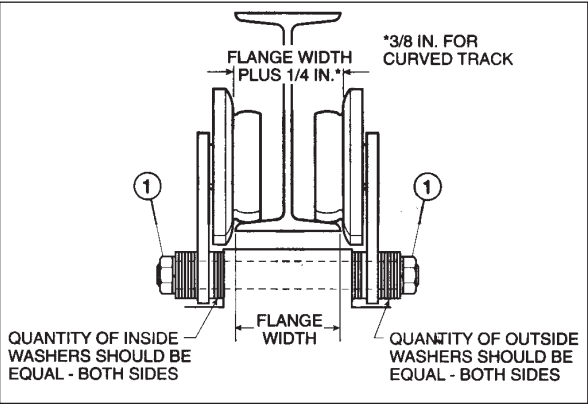

Figure 2-1. Sectional View of Trolley showing proper wheel and washer spacing
- b. **Trolley Mounted** hoists are attached to moveable trolleys. If the hoist is mounted on an existing trolley, a qualified person shall determine that the trolley and its supporting structure are adequate to support the rated load and weight of the hoist. Hoist/trolley units may be shipped from the factory with trolley packaged separately. If the trolley can be installed directly over the end of the supporting beam, assemble trolley to hoist. Be certain that the spacing between wheel flanges, after assembly, is 1/4" greater than exact width of beam flange. (See Figure 2-1 below and instruction sheet furnished with trolley.) Using proper equipment, carefully lift trolley and hoist and install on end of beam.
For trolleys which are to be mounted along the span of a beam not having open ends, measure exact width of beam flange and assemble trolley to hoist so that spacing between wheel flanges is 1/4" (see Figure 2-1) greater than beam width (3/8" if beam has curves). This is accomplished by rearranging the spacer washers on the bolts connecting trolley side plates to hoist mounting lug. If trolley is shipped separate from hoist, see instruction sheets furnished with trolley for orientation and installation.
When proper spacing has been determined, loosen mounting nuts (item 1, Figure 2-1) to allow trolley wheels to spread far enough to pass over edges of beam flange. (Some installations may require complete removal of one trolley side plate.) Using adequate equipment, carefully lift the hoist and trolley so the wheel treads will rest on the lower beam flange.